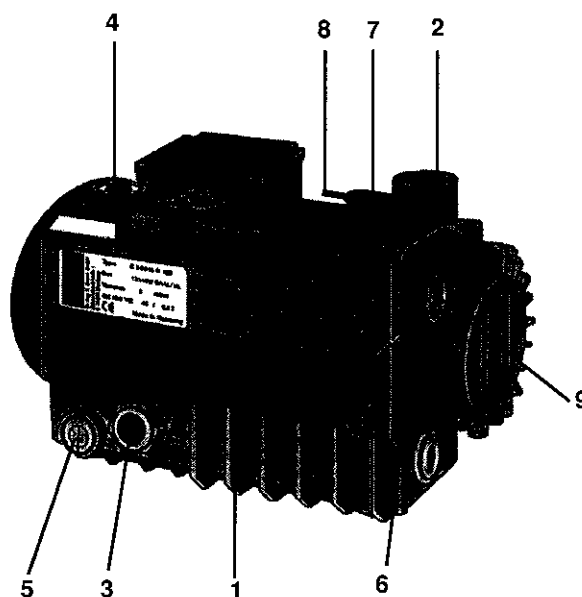

Fig. 7-12
- Unscrew the four screws on the exhaust air cover (Fig. 7-12, 6) with an Allen key (WAF 4) and take off the cover.